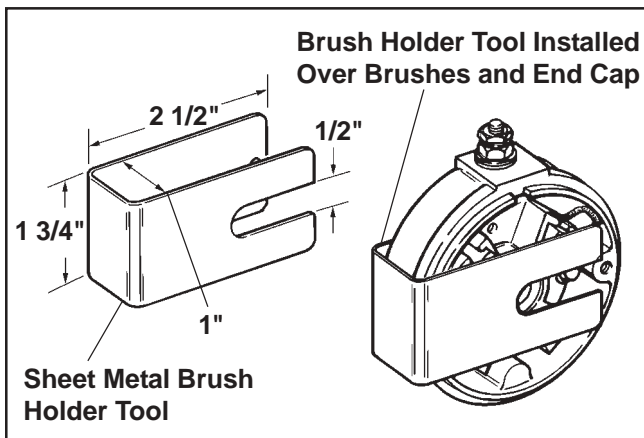

Figure 8-40. Brush Holder Tool (Style "A" End Cap).
**NOTE:** Use a brush holder tool to keep the brushes in the pockets. A brush holder tool can easily be made from thin sheet metal. See Figure 8-40.